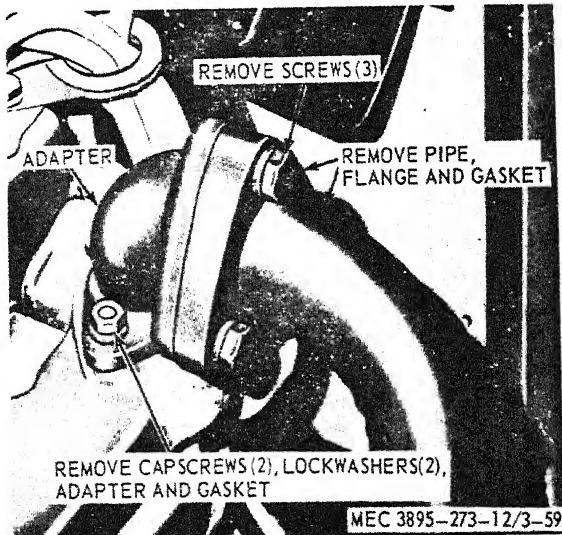

Figure 3-56. Exhaust pipe, removal and installation.
- (1) Remove the muffler (para 3-85).
- (2) Remove the exhaust pipe as instructed on figure 3-56.
- (1) Install the exhaust pipe in reverse of the instructions on figure 3-56.
- (2) Install the muffler (para 3-85).